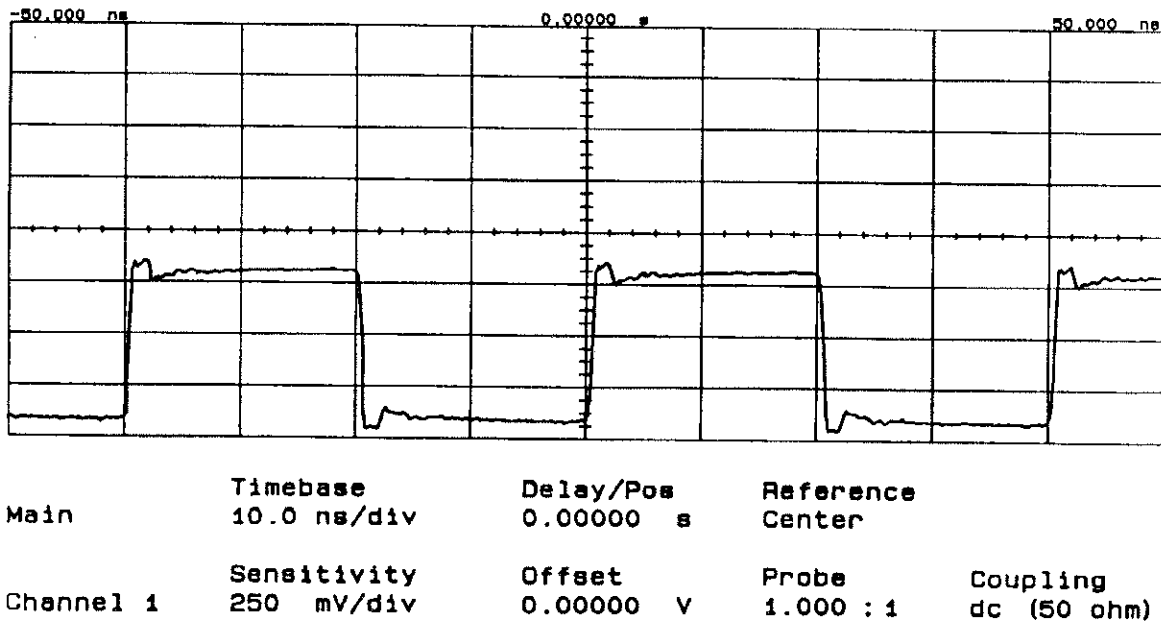

Figure 12-1. Waveform at A20J2(1)
The overall functionality of the A20 assembly is checked by applying a 100 MHz, -10 dBm signal to the Channel C input, and verifying that the A20 assembly output, A20J2(1), is approximately 25 MHz, ≥ 600 mV (see *Figure 12-1*). The procedure to verify correct operation of the A20 assembly is as follows:
- A. Using an HP 3458A, verify the voltages at A20U6(1) and A20U6(11) are both between -1.2 V and -1.4 V. If either of the voltages are not correct, then replace A20U6.
- C. Verify the voltage at A20U6(8) is approximately -5.2 V. If the voltage is not correct, then verify the voltage at the -5.2 V test point on the A9 assembly is correct. If this voltage is not correct, then proceed to the A9 Double and A10 Triple Regulator Adjustments, located in chapter 3.
- D. Perform Steps A through G of the A20 Troubleshooting Approach to verify the signal at A20J2(1) is approximately 25 MHz, ≥ 600 mV (see *Figure 12-1*). If the signal does not have the correct frequency or is less than 600 mVp-p, then replace A20U6.